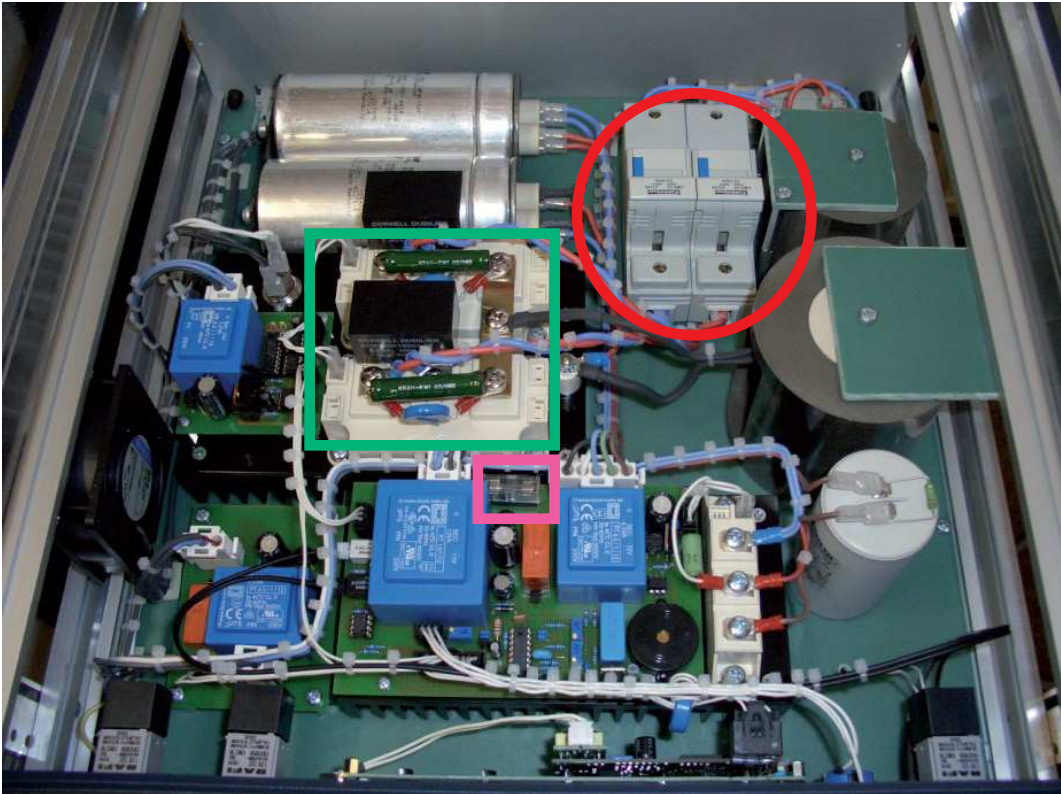

Figure 18
- h) If the centering laser was not working and/or the fan in the lamp housing was not running check the fuse on the front PCB (seen from the display side of the insert; marked pink in figure 18)
- j) Check the 125 A fuses located in the gray plastic holders in the back right corner of the insert (seen from the display side of the insert; marked red in figure 18)
- l) Check the current control system (marked green in figure 18) if you see some soot on them.